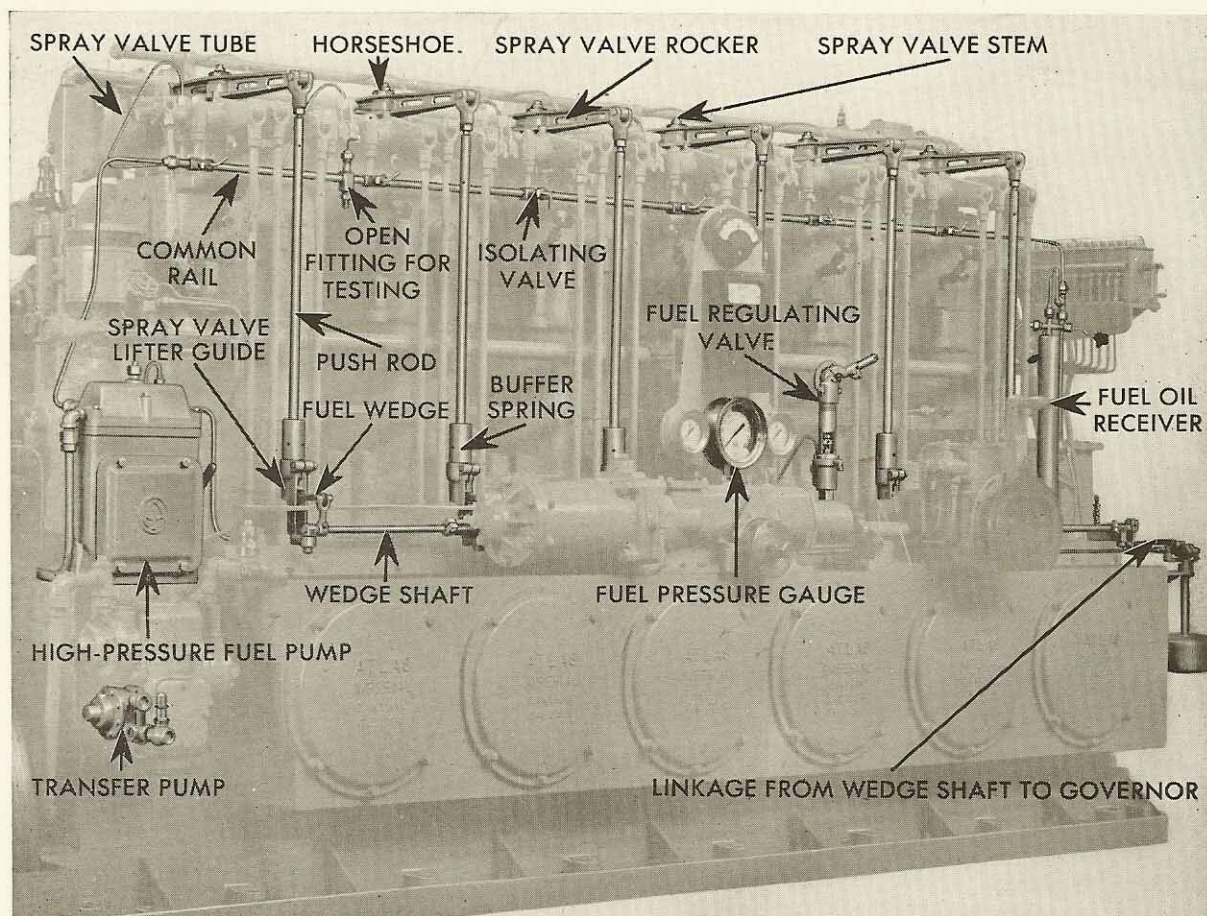

FIGURE 4-1
1. FUNCTION: The engine fuel system shown in Figure 4-1 must do several things:—
2. FUEL-TRANSFER PUMP: The pump that transfers oil from the ship's storage tank or tanks to a smaller tank at the engine is called the fuel-transfer pump, or usually just the transfer pump. It is mounted on the engine as shown in Figure 4-1 and is driven by gears